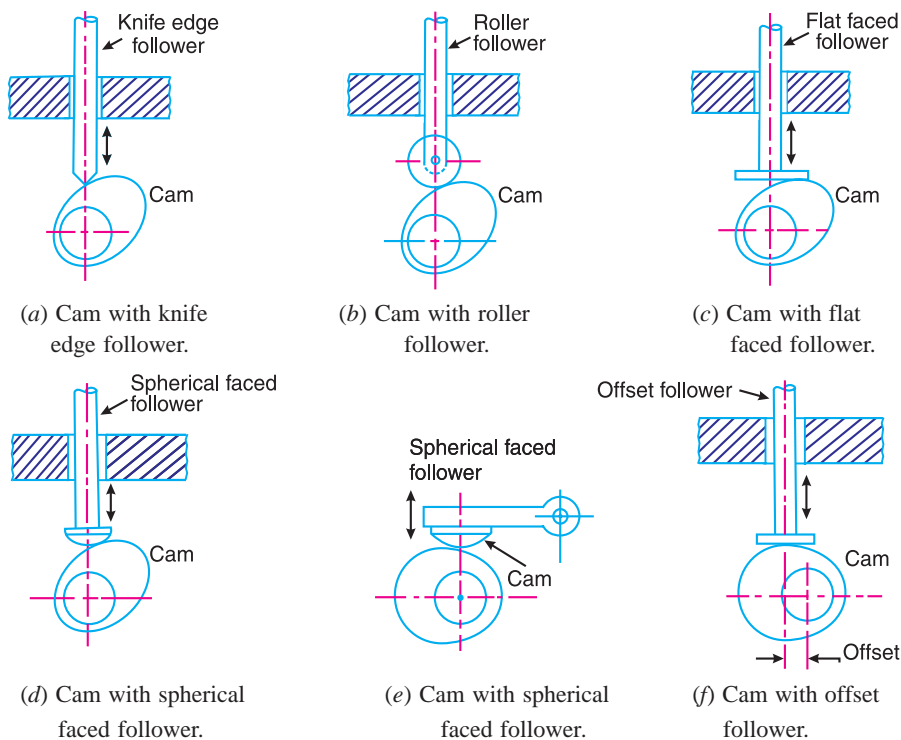

Fig. 20.1. Classification of followers.
- (a) **Knife edge follower.** When the contacting end of the follower has a sharp knife edge, it is called a knife edge follower, as shown in Fig. 20.1 (a). The sliding motion takes place between the contacting surfaces (*i.e.* the knife edge and the cam surface). It is seldom used in practice because the small area of contacting surface results in excessive wear. In knife edge followers, a considerable side thrust exists between the follower and the guide.
- (b) **Roller follower.** When the contacting end of the follower is a roller, it is called a roller follower, as shown in Fig. 20.1 (b). Since the rolling motion takes place between the contacting surfaces (*i.e.* the roller and the cam), therefore the rate of wear is greatly reduced. In roller followers also the side thrust exists between the follower and the guide. The roller followers are extensively used where more space is available such as in stationary gas and oil engines and aircraft engines.
- (c) **Flat faced or mushroom follower.** When the contacting end of the follower is a perfectly flat face, it is called a flat-faced follower, as shown in Fig. 20.1 (c). It may be noted that the side thrust between the follower and the guide is much reduced in case of flat faced followers. The only side thrust is due to friction between the contact surfaces of the follower and the cam. The relative motion between these surfaces is largely of sliding nature but wear may be reduced by off-setting the axis of the follower, as shown in Fig. 20.1 (f) so that when the cam rotates, the follower also rotates about its own axis. The flat faced followers are generally used where space is limited such as in cams which operate the valves of automobile engines.
- (d) **Spherical faced follower.** When the contacting end of the follower is of spherical shape, it is called a spherical faced follower, as shown in Fig. 20.1 (d). It may be noted that when a flat-faced follower is used in automobile engines, high surface stresses are produced. In order to minimise these stresses, the flat end of the follower is machined to a spherical shape.
(a) **Reciprocating or translating follower.** When the follower reciprocates in guides as the cam rotates uniformly, it is known as reciprocating or translating follower. The followers as shown in Fig. 20.1 (a) to (d) are all reciprocating or translating followers.
(b) **Oscillating or rotating follower.** When the uniform rotary motion of the cam is converted into predetermined oscillatory motion of the follower, it is called oscillating or rotating follower. The follower, as shown in Fig 20.1 (e), is an oscillating or rotating follower.
(a) **Radial follower.** When the motion of the follower is along an axis passing through the centre of the cam, it is known as radial follower. The followers, as shown in Fig. 20.1 (a) to (e), are all radial followers.
(b) **Off-set follower.** When the motion of the follower is along an axis away from the axis of the cam centre, it is called off-set follower. The follower, as shown in Fig. 20.1 (f), is an off-set follower.
1. **Radial or disc cam.** In radial cams, the follower reciprocates or oscillates in a direction perpendicular to the cam axis. The cams as shown in Fig. 20.1 are all radial cams.